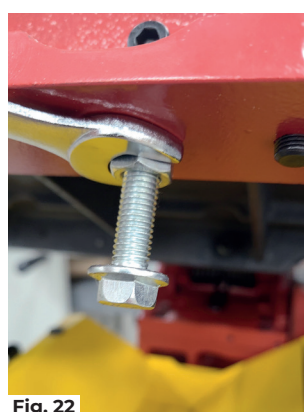

Fig. 22
- 8) Table cam lock adjustment if needed is done via the lock bolts located in between the two table adjusting grub screws (Fig. 13 - Fig. 22).